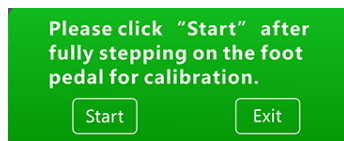

Figure 8
5.7.2 In setting interface, touch key “9” Calibration key, touch Start key, and the interface shown in Figure 8,9 would pop up. Fully press down the foot pedal until 100% is displayed, then release the foot pedal to finish the calibration.